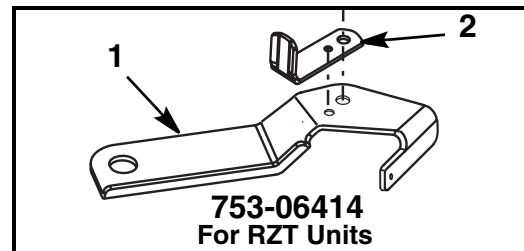

FIGURE 2
(See Figure 2)
24. Place the new Belt Guard, 783-06368A (Item 2), onto the new idler arm bracket. Ensure that the boss on the bottom of the belt guard sets into the hole provided in the idler arm bracket to properly orient the belt guard. See Figure 2.